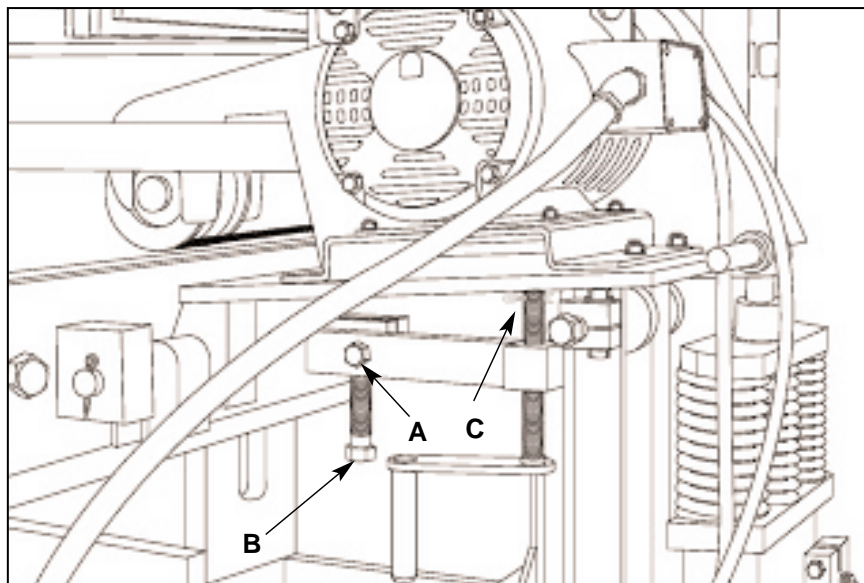

Figure 5.23 VIBRATING MOTOR HEIGHT ADJUSTMENT SCREW (B).
- 5.5.19 Loosen clamp bolt (A) (see figure 5.23).
- 5.5.20 Turn adjusting screw (B) up until it contacts under side of right hand vibrating motor support plate (see figure 5.23). The adjusting screw (B) is located under the right vibrating motor.
- 5.5.24 Recheck 1" dimension. During vibration, if mold works off center to the right, turn adjusting screw (B) up (see figure 5.23) which will move the vibrating motor up. If molds works off center to the left, turn adjusting screw (B) down (see figure 5.23).
Note: Make sure base is not on the jacking screw (C) when adjusting vibrating motor height (see figure 5.23).